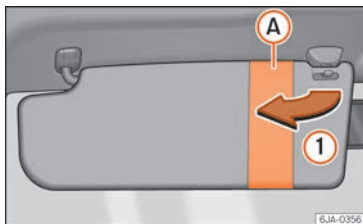
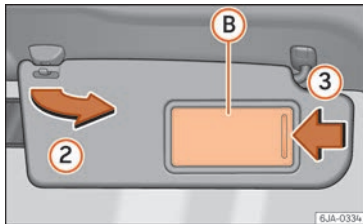

Fig. 138 Driver's sun visor.
Fig. 139 Front passenger's sun visor.
The sun visors for the driver and the front passenger can be pulled out of their central supports and turned towards the doors in the direction of arrow ① » » Fig. 138 and ② » » Fig. 139 respectively.
The front passenger sun visor includes a vanity mirror ④ with a cover. The cover is opened by sliding it in the direction indicated by arrow ③ » » Fig. 139.